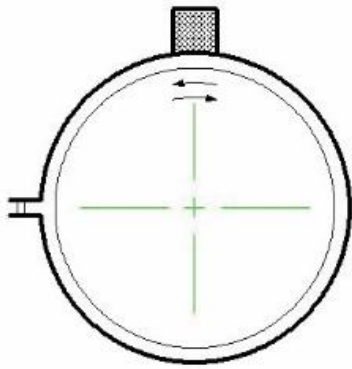
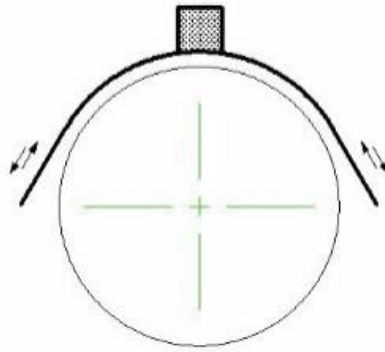
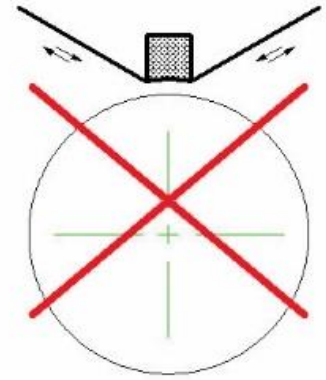

Fig. 3 ✓
Fig. 4 ✓
Fig. 5 ✗
- on the whole periphery of the commutator or slip ring, as illustrated by figure 3
- or only on part of it, when seating brushes line by line (which is usually necessary for a large machine) as shown by figure 4, by using an appropriate tool (clips) or hands
New brushes are placed into position in their brush-holders and pressed against the abrasive cloth. Then, depending on above case, the rotor (fig. 3) or the abrasive cloth (fig. 4) is **oscillated back and forth until it is observed that all contact surfaces are completely seated**.
Fig. 3 to 5 – Contact surface seating method with abrasive cloth
When seating the brushes arm by arm by hand (fig. 4), ensure that the cloth always makes contact with the commutator or slip ring well outside the area covered by the brush. Otherwise (fig. 5) it will lead to a reduced or uneven contact surface area under the brush.